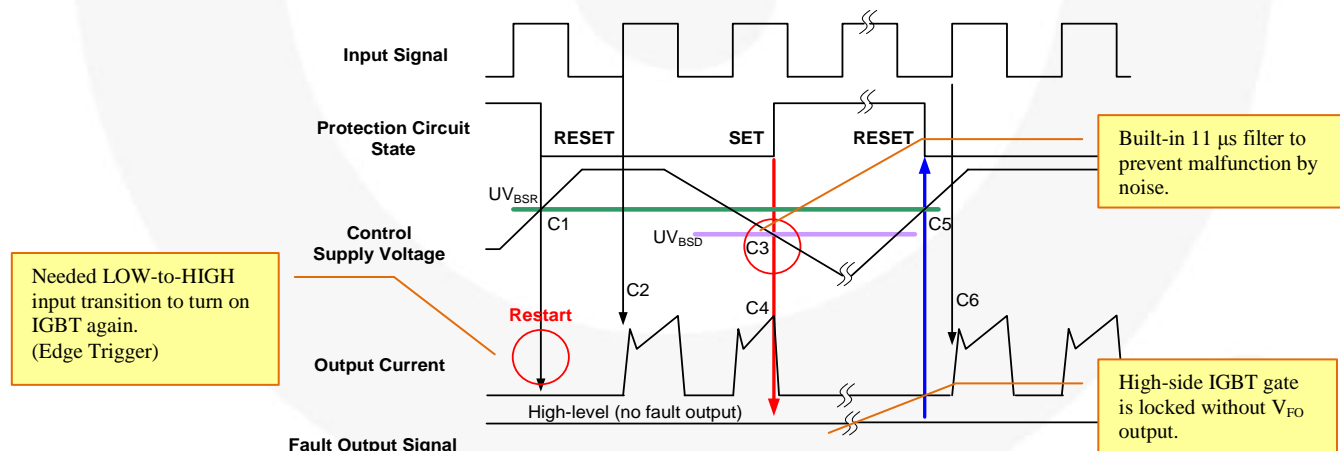

Figure 16. Timing Chart of High-Side Under-Voltage Protection Function
The HVIC has an under-voltage lockout function to protect the high-side IGBT from insufficient gate driving voltage. A timing chart for this protection is shown in Figure 16. A fault-out (FO) alarm is not given for low HVIC bias conditions.